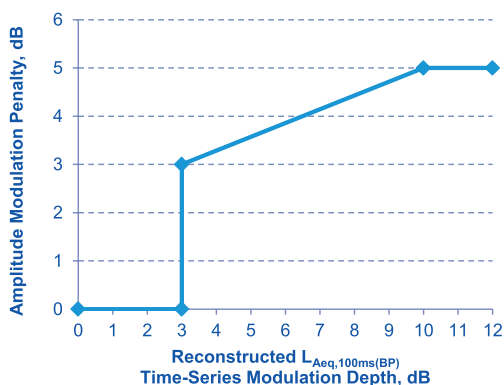

Figure 2: Recommended AM penalty control scheme, from DECC review [7, 8]
- **Rating:** The ratings produced would be considered against the penalty scale shown in Figure 2. The corresponding penalty values would be added to the WTN levels derived using the existing methodologies for compliance testing set out in ETSU-R-97 [10] and the IOA GPG [11, 12] for integer wind speeds – implementation of this step is discussed further below.